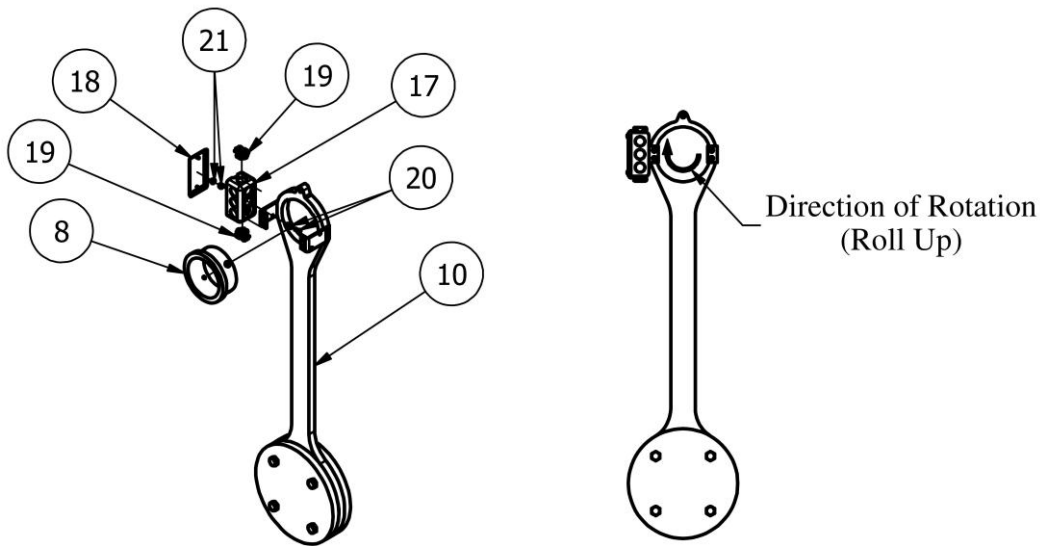

Figure 3
1. Pre-assemble the counterweight on the floor before installing on the aluminum drive tube. Refer to Figure 3.